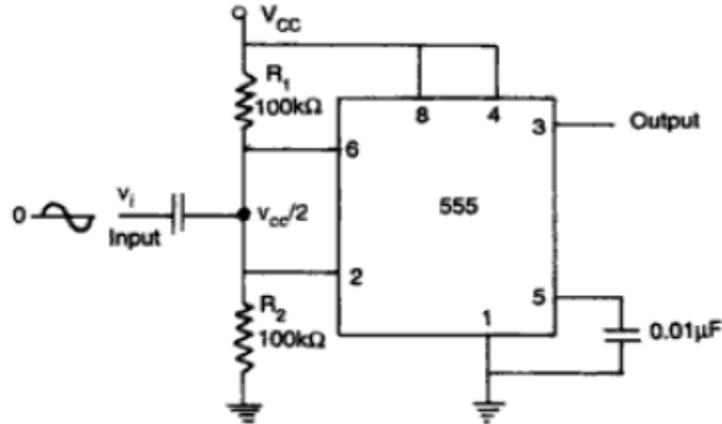

Figure 24: Timer in Schmitt trigger operation
- The use of a 555 timer as a Schmitt Trigger is shown in Fig. 24.